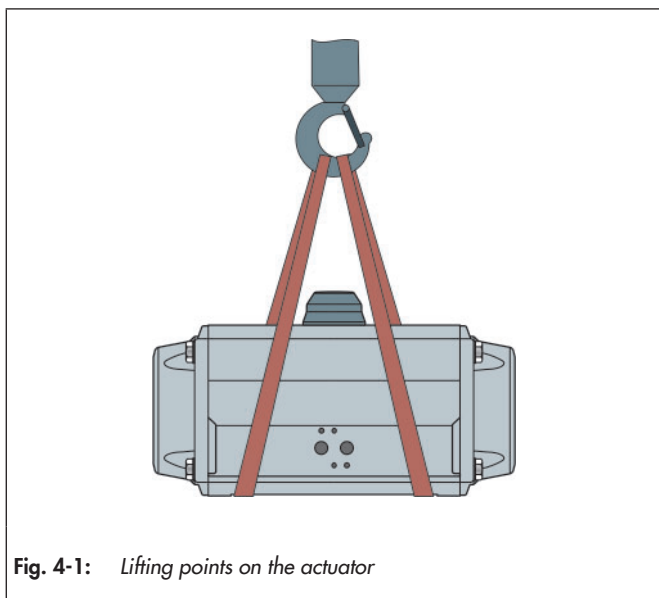

Fig. 4-1: Lifting points on the actuator
- ⇒ Use a hook with a safety clamp as the suspension element, see Fig. 4-1, so that the sling cannot slip off the hook during lifting and transport.
- ⇒ Use a hook with a safety clamp as the suspension element so that the sling cannot slip off the hook during lifting and transport, see Fig. 4-1.